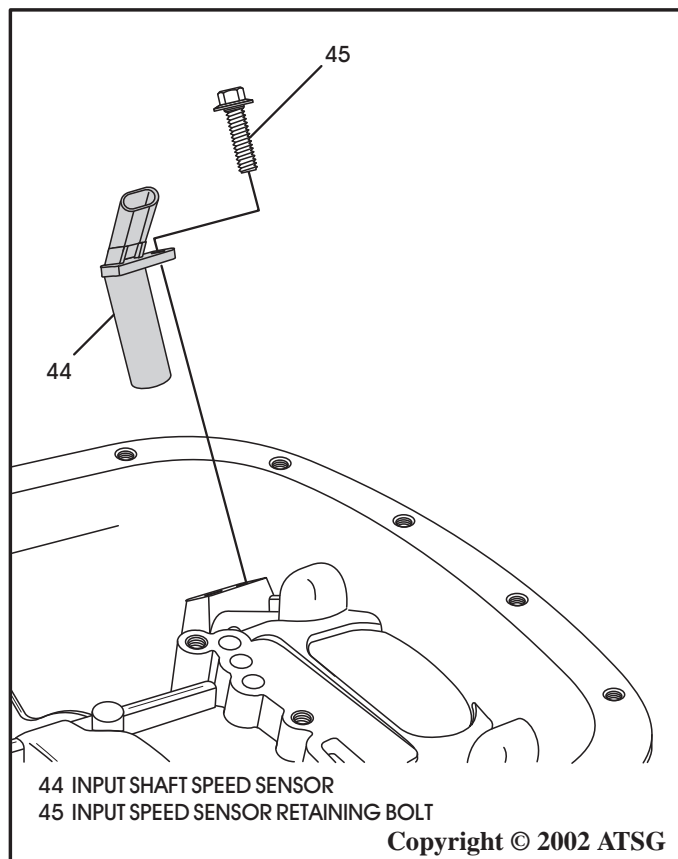

Figure 197
1. Install the input shaft speed sensor, as shown in Figure 197.